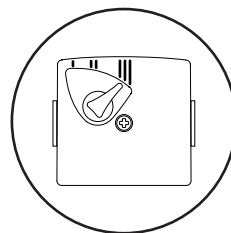

Fig. 58
3. A standard replacement Grundfos 15-60 head can now be fitted. Connect the pump wiring to the new head. **The pump speed must be set to 3** (Fig. 58).